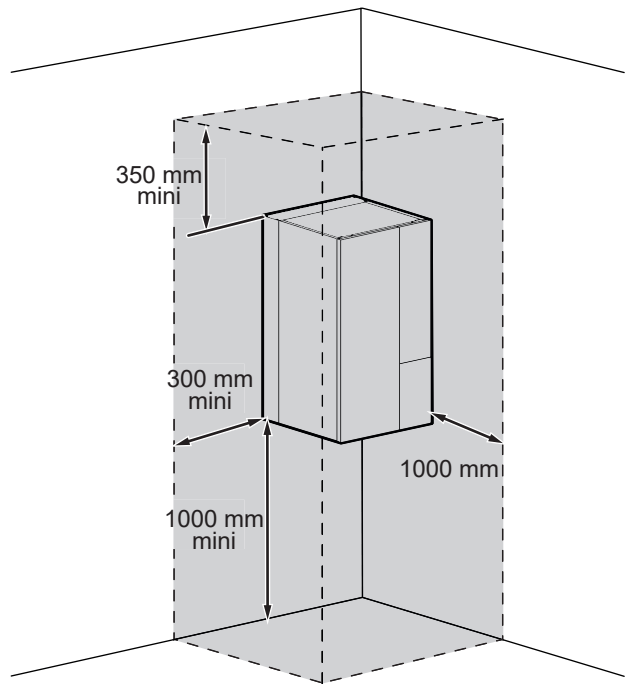

fig. 19 - Minimum installation clearances around the hydraulic unit for maintenance
- To facilitate maintenance and allow access to the various parts, we recommend that you provide sufficient space all the way around the hydraulic unit (fig. 19).